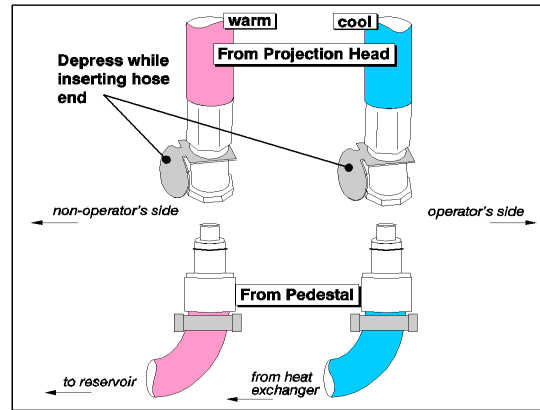

Figure 2-15 Connecting the Hoses
- a. To create this loop, connect the **OUT/warm** and **IN/cool** hoses as described below. **NOTE:** *Hose connections may not be labeled.* Be sure to depress each hose connector tab before inserting the hose end, then release to seal (**Figure 2-15**). This prevents damage caused by forcing the gasket end into a closed connector. Listen for a click.